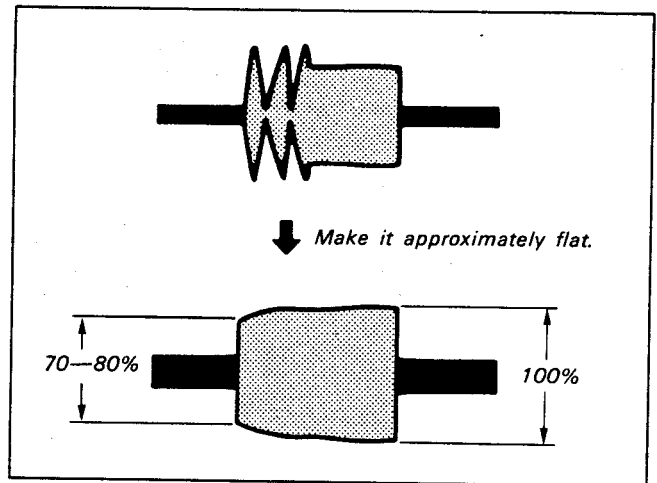

Fig. 4-7
- 3) Slowly rotate the No.2 guide clockwise to make the entrance side waveform approximately flat. (Fig. 4-7)